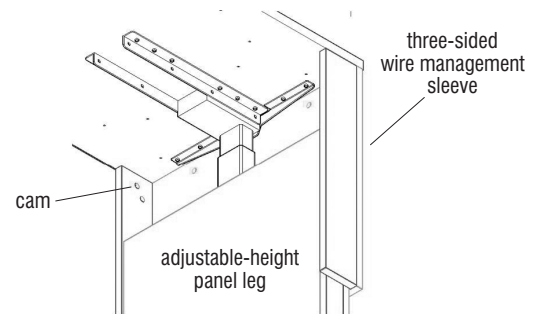
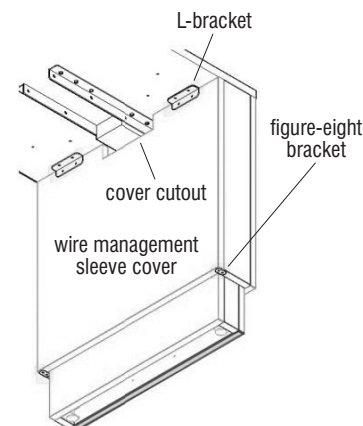

Figure 11
Figure 12
2. Align the cam holes on top of the three-sided wire management sleeve with the heads of the shoulder pin screws. With the assistance of a second person, have one person lift the sleeve up against the worksurface so the shoulder pin screws insert into the cam holes, then the second person turns each cam clockwise with a Phillips screwdriver to lock the sleeve in place under the worksurface (Figure 11).
3. Place one figure-eight bracket on the bottom of the wire management sleeve side panel as illustrated in Figure 11. Orient the bracket to have one mounting hole remain on the end of the side panel and the other hole protruding forward so the wire manager sleeve cover can rest on top of the bracket at a later step. Secure the end of the figure-eight bracket to the bottom of the side panel using a #8 x $\frac{5}{8}$ " screw. Repeat this step to install the second figure-eight bracket to the opposite side panel (Figure 12).
5. Place a L-bracket on each side of the top sleeve cutout and against the underside of the worksurface and secure using four #8 x $\frac{5}{8}$ " screws per bracket (Figure 12).
6. Secure the bottom of the wire management sleeve to the figure-eight mounting brackets using a #8 x $\frac{5}{8}$ " screw per bracket (Figure 12).